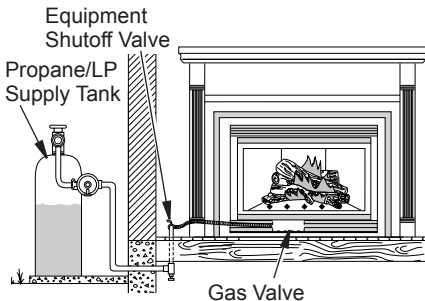
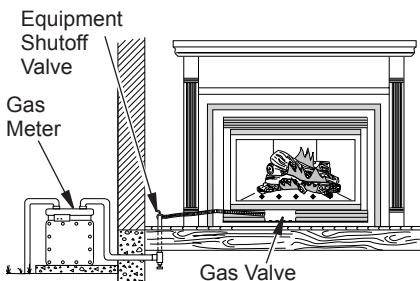

Figure 34 - Checking Gas Joints for Propane/LP Gas Fireplace
Figure 35 - Checking Gas Joints for Natural Gas Fireplace
3. Check all joints from propane/LP supply tank for propane/LP or gas meter for natural gas to equipment shutoff valve (see Figure 34 or Figure 35). Apply noncorrosive leak detection fluid to all joints. Bubbles forming show a leak. Correct all leaks at once.
4. Check all joints from equipment shutoff valve to gas valve (see Figure 34 or Figure 35). Apply noncorrosive leak detection fluid to all joints. Bubbles forming show a leak. Correct all leaks at once.